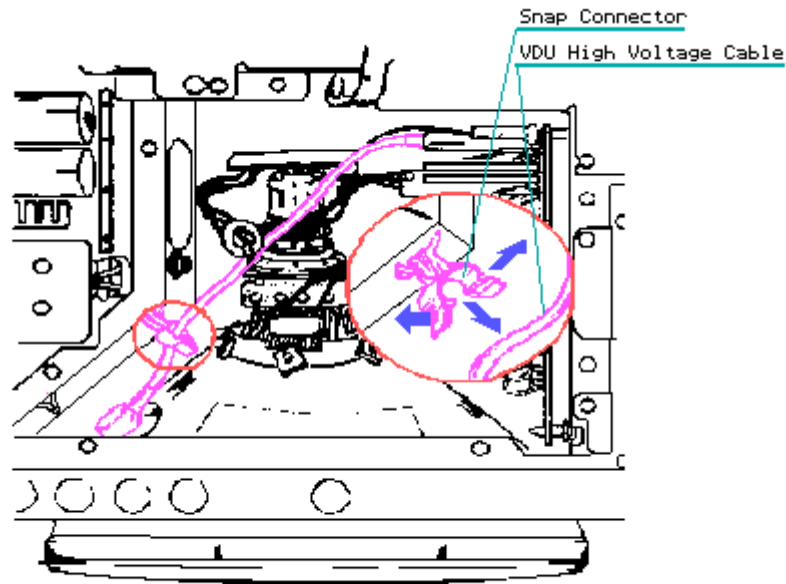

Figure 7-66. Disconnecting and Removing the VDU High Voltage Cable
7. The VDU high voltage cable is secured to the system chassis by a push mount with a snap connector at the end. Disconnect the VDU high voltage cable by first unsnapping the push mount and then removing the cable from its place inside the connector (Figure 7-66).